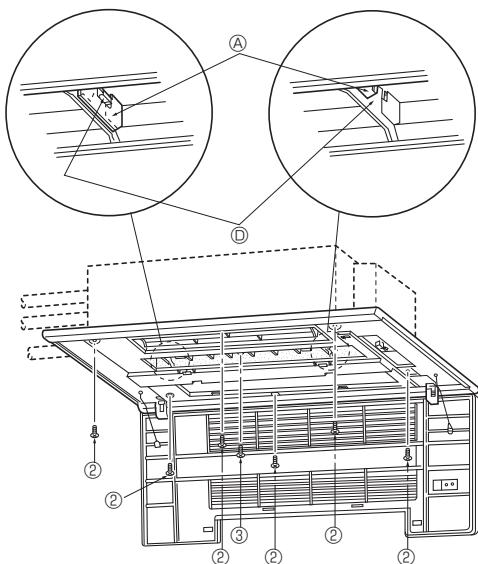
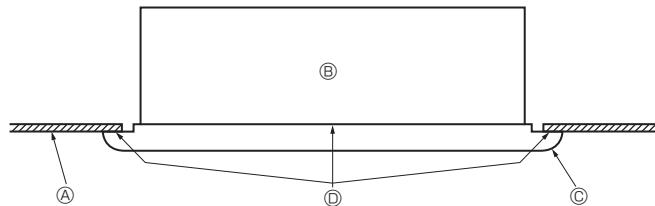

Fig. 5-5
Fig. 5-6
- Adjust the front panel so that it fits properly in the angle between the ceiling and the wall, and install the securing bolts ② (supplied with this grille) in their four places at left and right, leaving them slightly loose. (Fig. 5-5)
- Next tighten the securing bolts ② and securing screws ③ in the centre three places.
- Finally tighten the securing bolts ② in the four places at left and right.
- At this point, make sure there are no gaps between the indoor unit and the front panel, and between the front panel and the ceiling surface. If there are gaps, the wind may come in and it may cause water to drip (Fig. 5-6).
* Tighten the securing bolts ② and securing screws ③ completely.
[Fig. 5-5]
5.4. Checks after installing (Fig. 5-6)